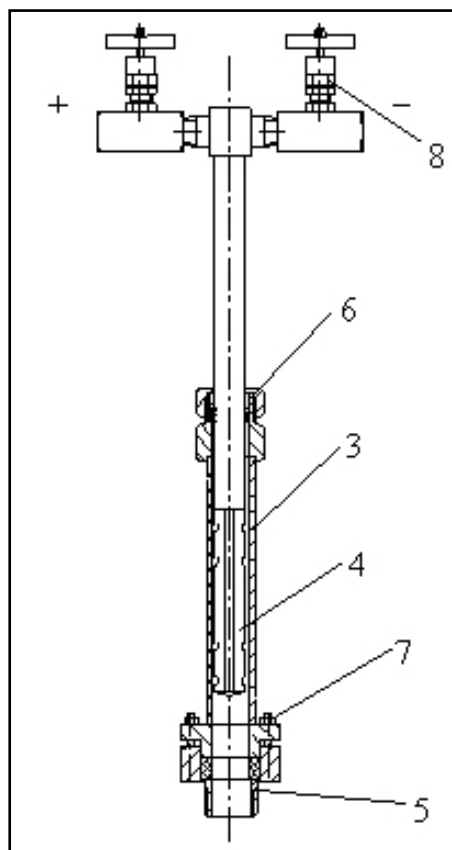

Fig 11.
10. Verify that the sensor profile (4) is fully retracted in the protection pipe (3) (see fig. 11).
11. Now seal the threaded stud (5) with a suitable sealing compound (see fig 11).